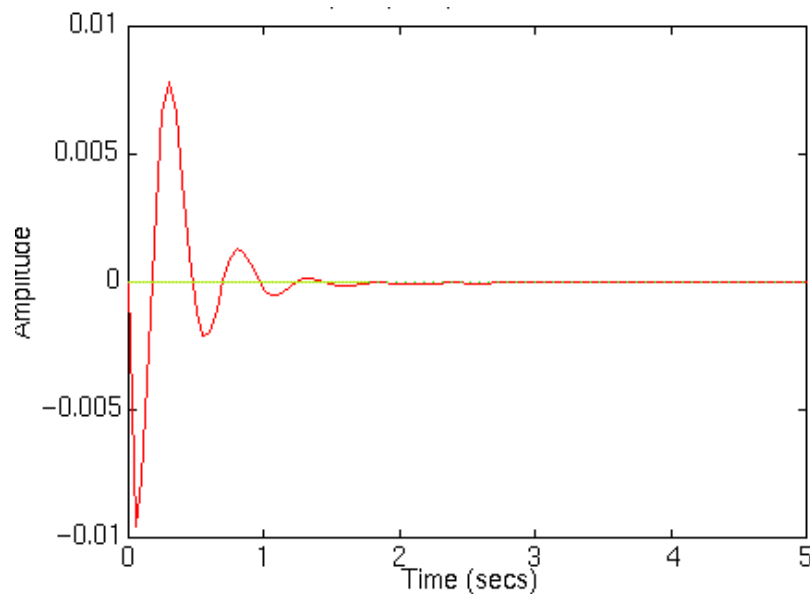
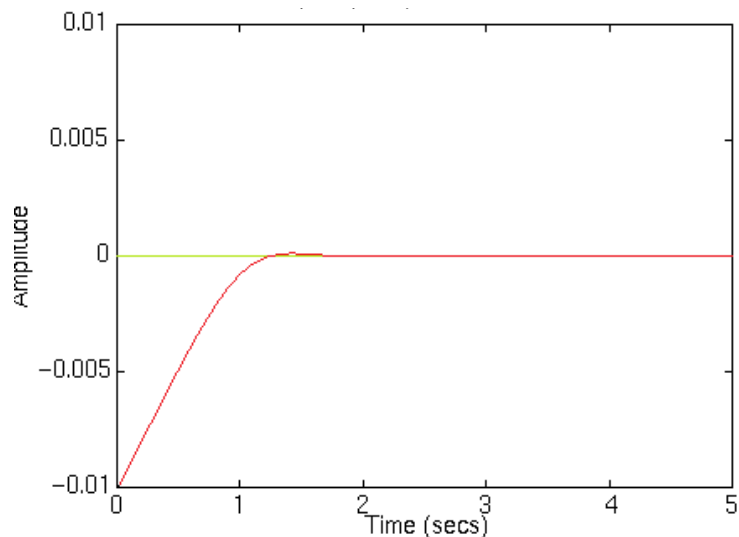

Figure 1: Graph of a PID Controller
Figure 2: Graph of a PID Controller
- Q1. Figure 1 is a graph of a PID Controller. (7.5)
Figure 2 is a graph of a PID Controller. Notice how the red line sets itself immediately to the desired set point. For a PID controller with a response as shown in Figure 1, what changes should be made to the K_p , K_i and K_d values in order to achieve the graph in Figure 2? Explain your answer in detail. (7.5)
Since, the response in figure 2 has reached the set point quickly, K_p value has to be increased. This allows a faster rise time. Then, to dampen or reduce the overshoots caused by K_p value, K_d value has to be increased. Then, K_i value has to be increased to reduce the steady state error such that set point is reached more accurately. The order of tuning is: